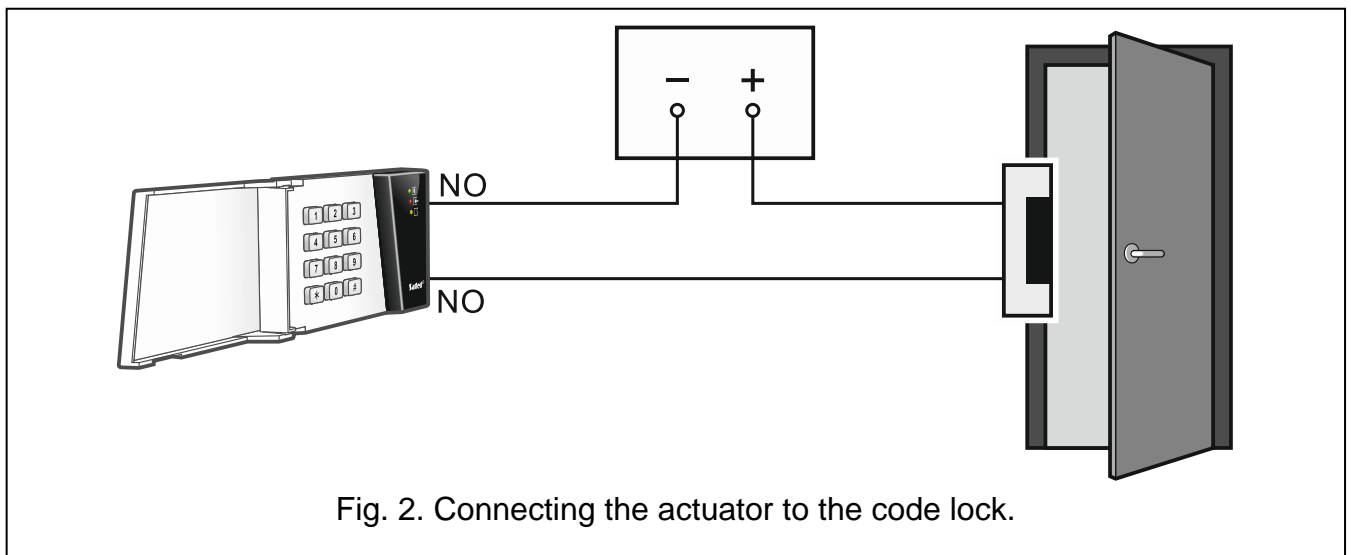

Fig. 2. Connecting the actuator to the code lock.
8. Connect the wires for control of electric strike, electromagnetic lock or another door actuator to the NO terminals (see Fig. 2). It is not recommended that the door actuator be powered from the same source as the code lock.